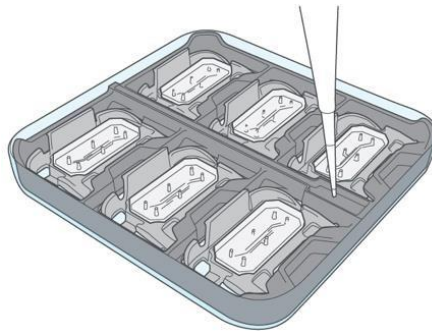

Figure 5. Fill central reservoir of Chip Cradle with 0.75 mL of DPBS
7. To prevent evaporation during incubation, fill the central reservoir with 0.75 mL of DPBS (See Figure 5) and place lid onto 120 mm square dish and incubate overnight at 4°C.